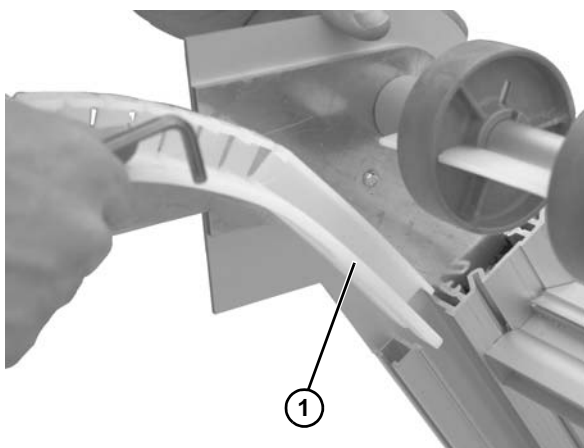

Figure 90
5. Remove belt return wearstrip (**Figure 90, item 1**). Repeat on other side.